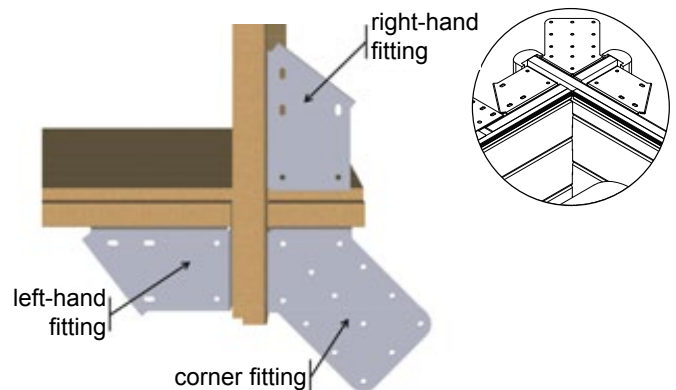

Figure 17 – Mounting the fitting in the corners
- On top of each of the 8 metallic supporting braces and the two wooden supporting braces, place a 'right-hand' fitting and a 'left-hand' fitting from the 'Fastening elements' kit as shown in *Figure 17*. Use 6 safety screws 6 × 20 in A2 SS (bag G) per fitting, that is a total of 96 screws.